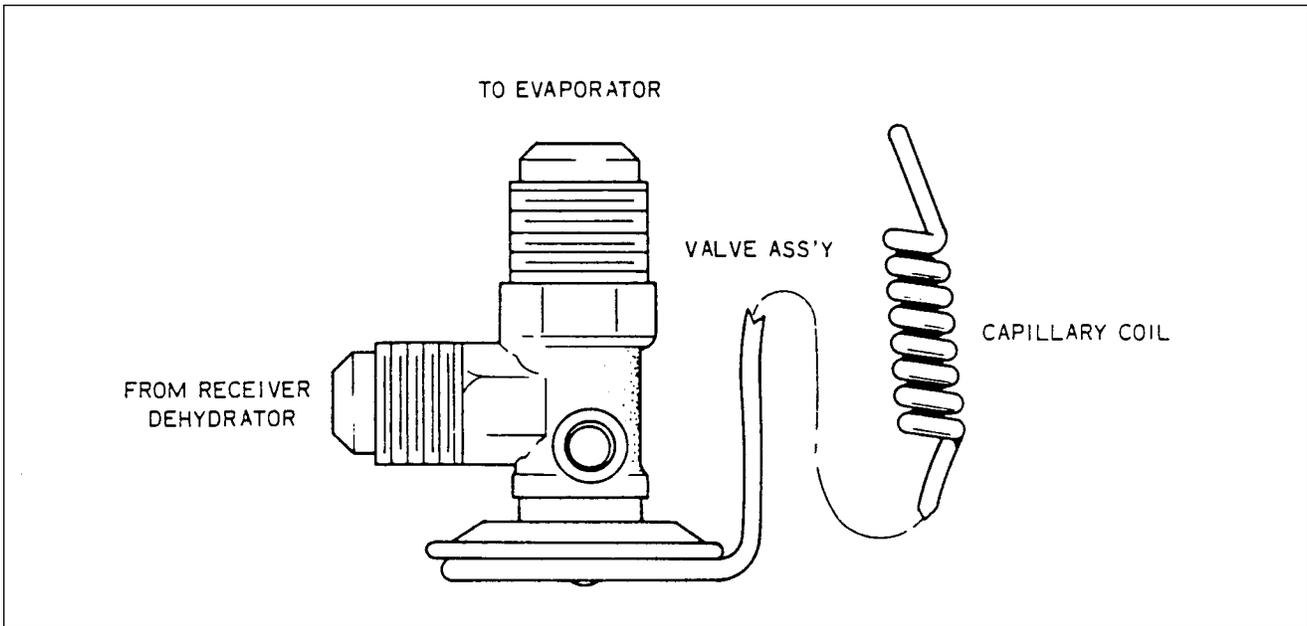

Figure 21-14. Expansion Valve
**EXPANSION VALVE REMOVAL** (figure 21-14)